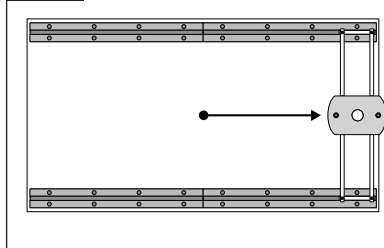

Fig. 6b
- Secure second rear rail with one screw in right hand hole and secure second front rail with one screw in right hand hole. – (Fig. 6b)